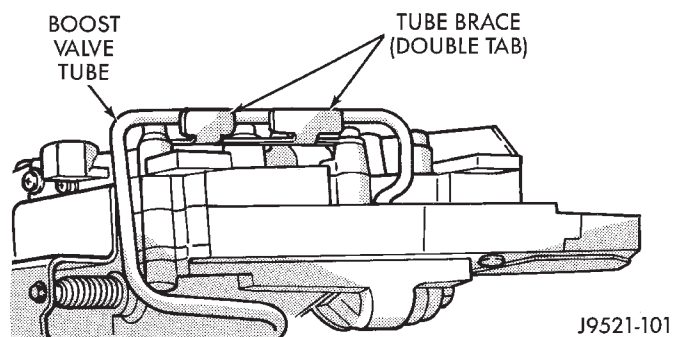

Fig. 61 Boost Valve Tube Brace
(27) Bend back tabs on boost valve tube brace (Fig. 61).